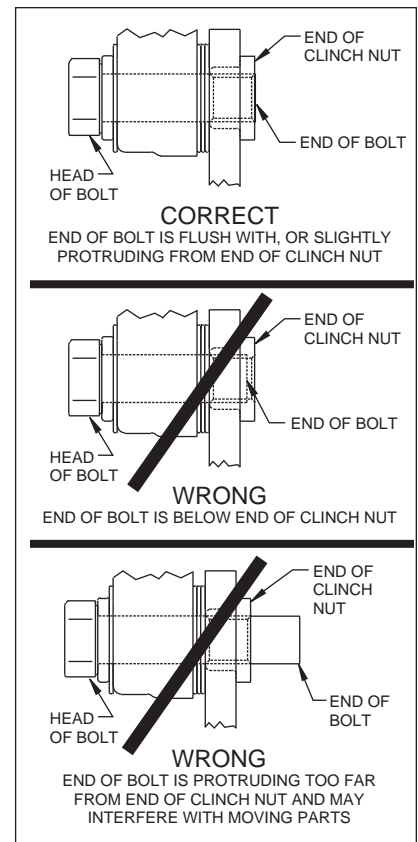

Figure 4.
•**NOTE:** Please reference the caution statement at the beginning of the assembly instructions. Mount the caliper (19) onto the caliper bracket (2) using two bolts (22), two washers (21) and two shim washers (20). Finger tighten. View the rotor (12) through the top of the caliper (19). The rotor (12) should be aligned in the center of the caliper (19). If not, loosen the two bolts (22) and adjust the caliper (19) by using 0.032 inch thick shim washers (20). The shim washers (20) should be placed between the caliper (19) and the caliper bracket (2). Finger tighten and recheck alignment. Add as many shim washers (20) as necessary to achieve the correct alignment. **NOTE:** The end of the bolt must be flush with or slightly protruding from the head of the clinch nut. See Figure 4. Place spare shims (20) between washer and caliper mounting ear to achieve the proper mounting fastener configuration. Always use the same amount of shims on both the top and bottom caliper mounting bolts (22). Loosen the two bolts (22) and apply red *Loctite*® 271 to bolt threads (22) and torque to 40 ft-lb. Caliper mount bolts may be safety wired for additional security.
•Install the disc brake pads (23) and secure using cotter pin (24).